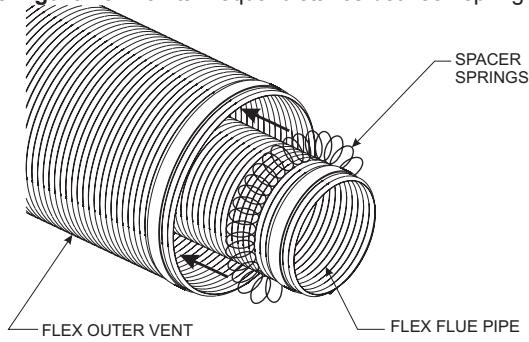

Figure 44
2. Check to see that the vent spacer springs are located around the flue vent at 8" and 12" intervals along its length. **See Figure 44.**